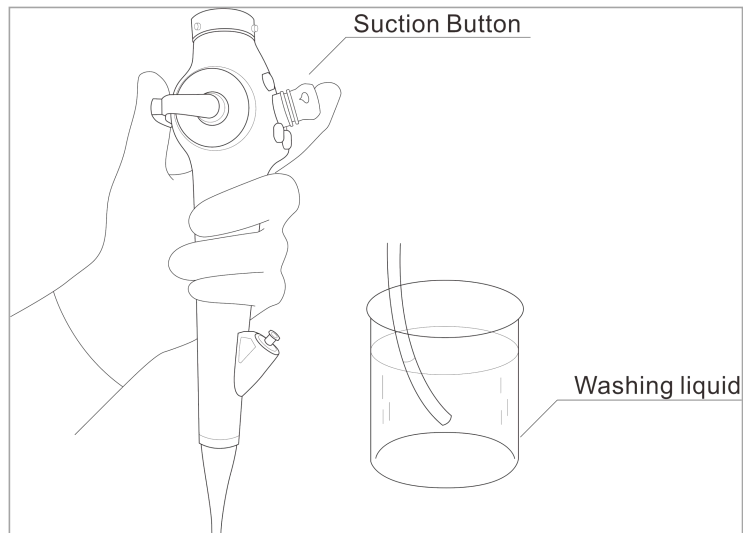

Fig. 7.8
3. Soak the front end of the Small Animal Endoscope into the washing liquid. Press the suction button and suck the solution for 30 seconds towards the suction channel (as shown in Fig. 7.8).